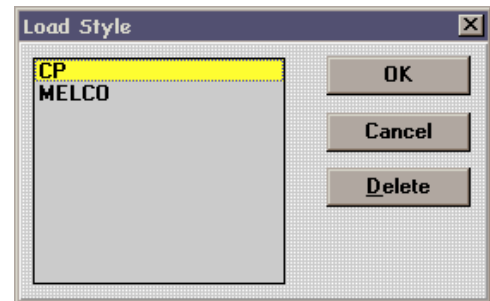

Figure 5-24
2. Click on the Style Name in the dialog box (Figure 5-24).